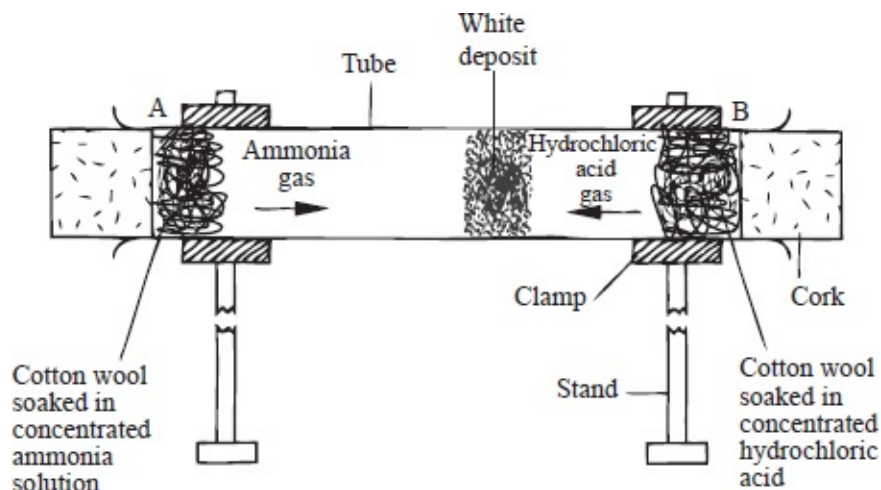

Fig. 5.12
- Clamp a long glass tube horizontally as shown in figure 5.12. Soak a piece of cotton wool in concentrated solution of hydrochloric acid and another in concentrated ammonia solution. Care should be taken while handling the two solutions because of their burning effect on the skin.